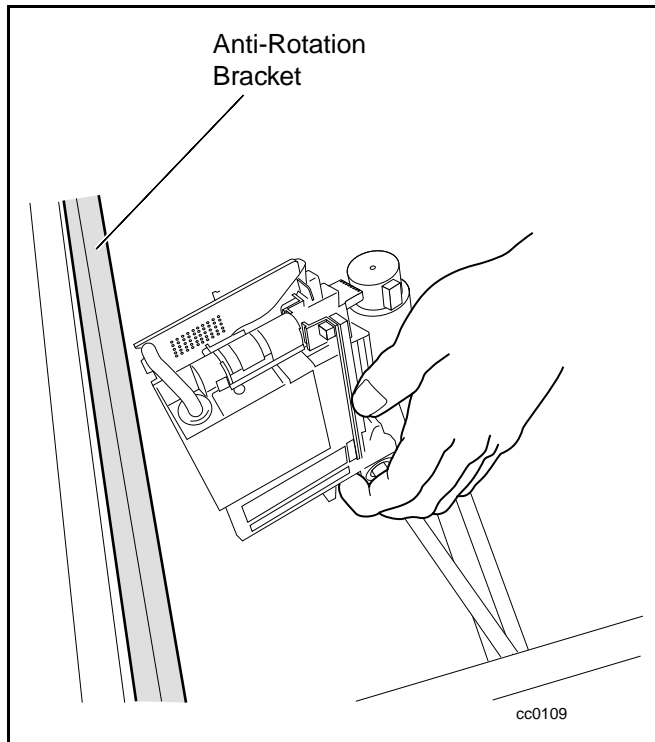
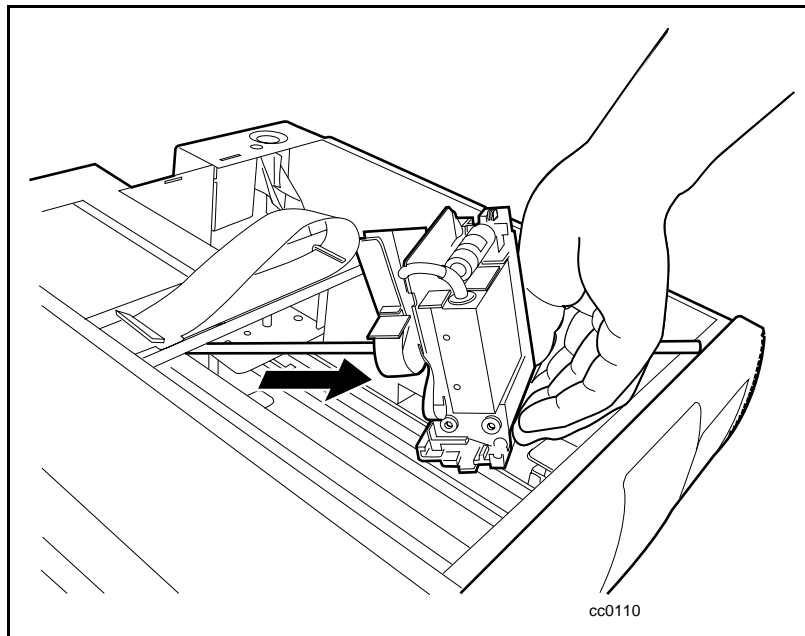

Figure 5-39. Anti-rotation bracket location
Figure 5-40. Removing the shuttle mechanism
9. Lift the shuttle mechanism up, sliding the front off of the guide pin and moving it forward to release it from the anti-rotation bracket (see Figure 5-39 and Figure 5-40).
10. Lift the shuttle mechanism out through the top of the Library chassis (see Figure 5-40).
1. Place the new shuttle mechanism in the AIT Library chassis, moving it back to engage the anti-rotation bracket and sliding it onto the pin (see Figure 5-40 and Figure 5-39).